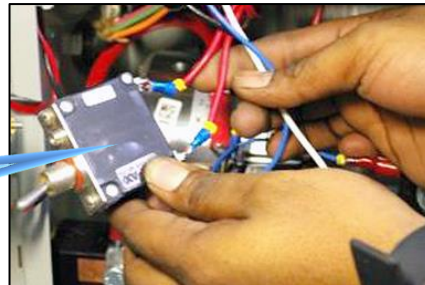

Figure 71
2. Remove the wires from the circuit breaker terminals (Figures 71 and 72).